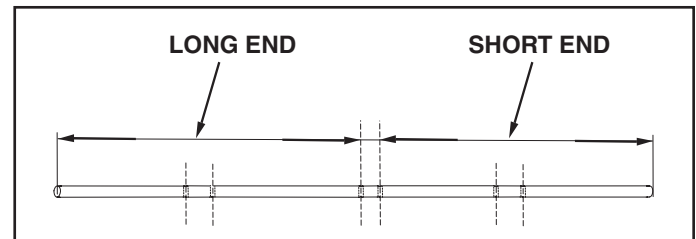

FIGURE 3
3. Measure the distance of the center "set" of drilled holes to either end of the shaft to find the "short end" of the shaft. The holes are offset from center to allow assembly of the handle. See figure 3.
4. Position the shaft with the "short end" to left for assembly. See figure 3.